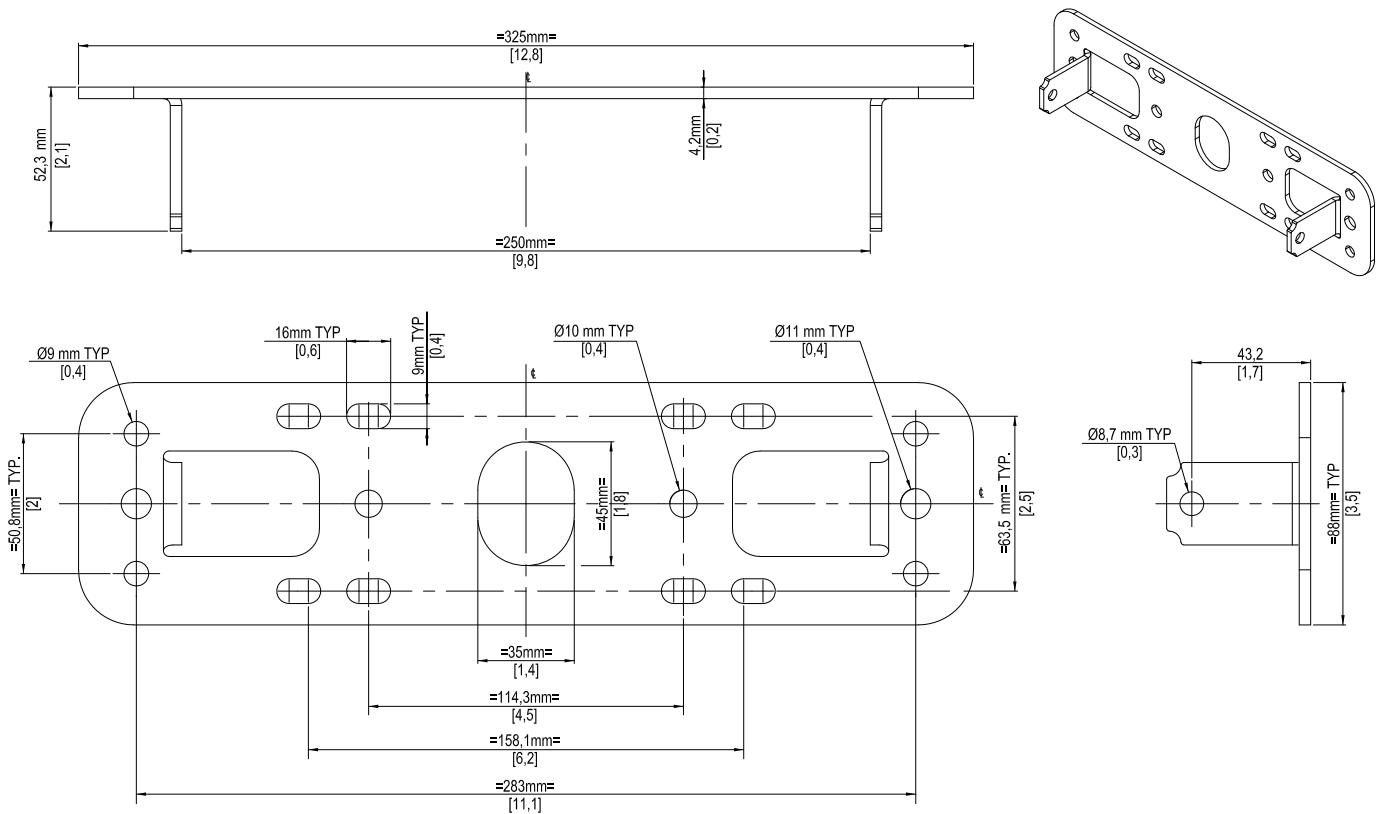

FIGURE 9: RMLPB MOUNTING HOLE DETAILS
2. Determine appropriate mounting distance between holes on the brackets for your application. Refer to Figure 9.